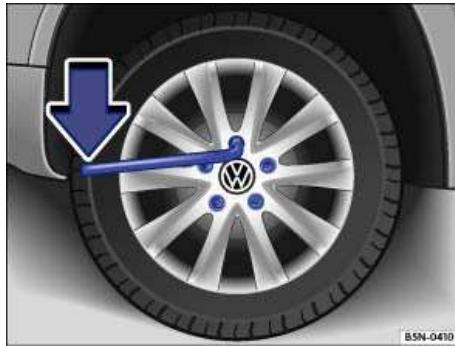

Fig. 195 Changing a wheel: Loosening wheel bolts.
- Push the lug wrench over the wheel bolt all the way ⇒ **fig. 195**.